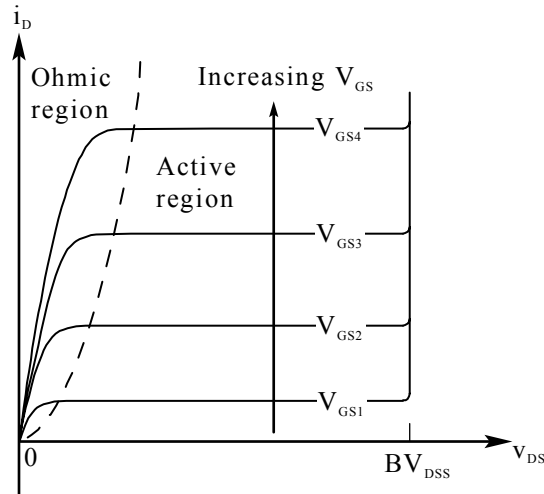

Figure 8 MOSFET Output Characteristic
- To keep the MOSFET operating in the “linear” region of its output characteristic. See Figure 8. There is a maximum drain current for a corresponding gate-source voltage that a MOSFET will conduct. If the operating point at a given gate-source voltage goes above the linear region “knee” in Figure 8, any further increase in drain current results in a significant rise in drain-source voltage and consequent rise in conduction loss and possible device destruction. The I_{DM} rating is set below the “knee” for typical gate drive voltages.